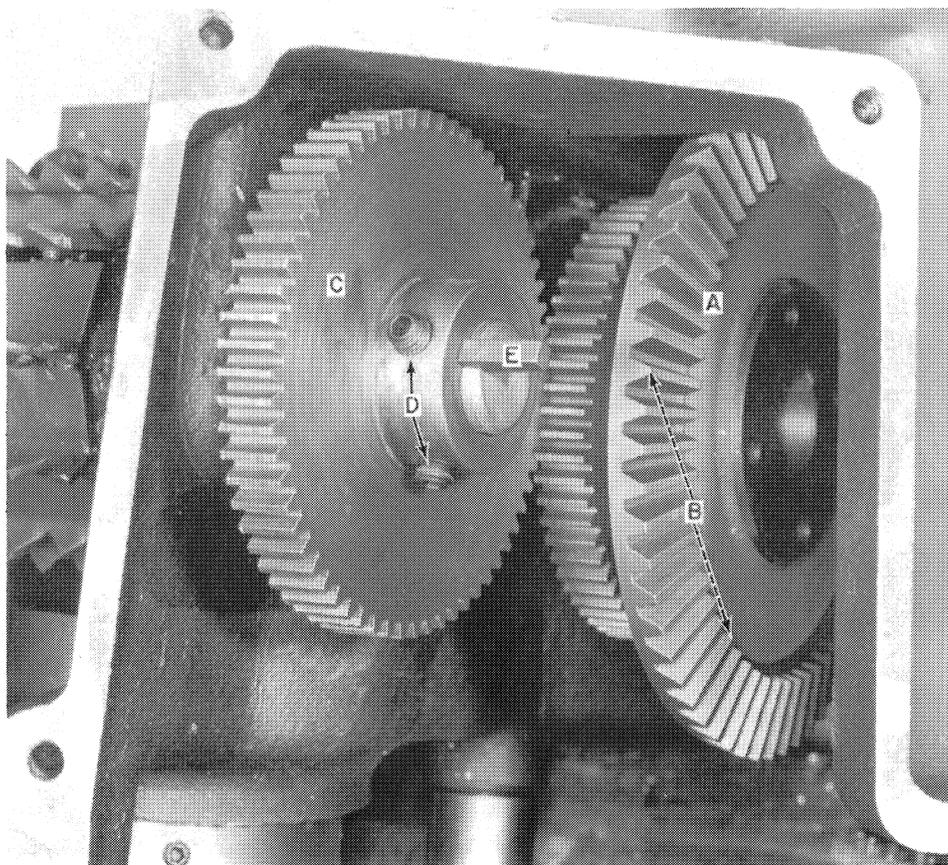
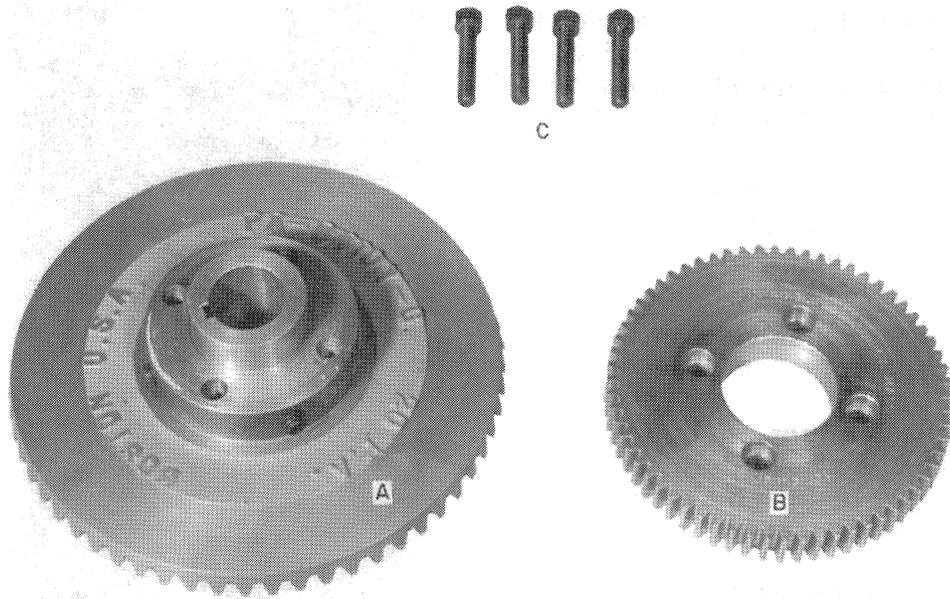

FIGURE 11
FIGURE 12
8. Remove the large bevel gear, A, Figure 11, after loosening the two set screws in the gear at B. Note the square key connecting this gear to its shaft.
9. Remove the feed roll drive gear, C, Figure 11, after loosening the two set screws at D. Note the square key which connects the gear to its shaft shown at E, Figure 11.
10. Should the large bevel gear, A, Figure 11, require replacement parts, it can be disassembled by removing the four allen-head screws at C, Figure 12. At this point the bevel gear portion, A, can be separated from the straight cut gear portion, B, Figure 12.